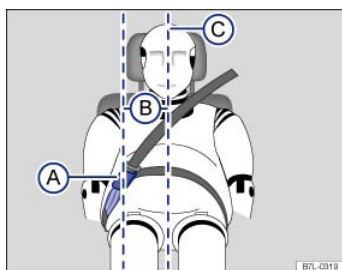

Fig. 67 Positioning of the safety belt extender.
Key to⇒ Fig. 67 :
- Never use a safety belt extender if the distance (B) between the front edge of the safety belt extender buckle (A) and the centerline of the person using the safety belt extender $\Rightarrow$ Fig. 67© is less than 6 inches (15 cm).